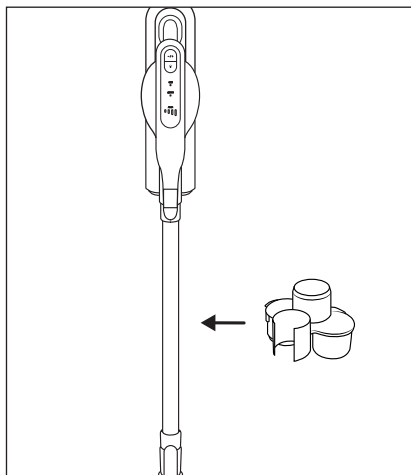

Fig. 16
- ◆ Attach the accessories holder 17 to the suction pipe 24 (see Figure 16).